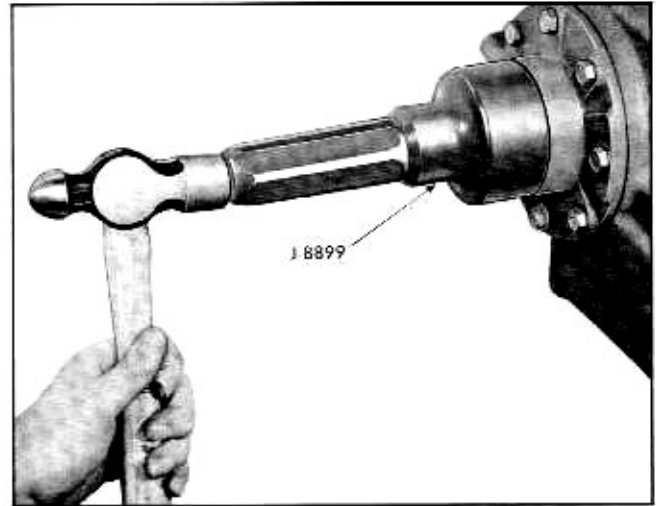

Fig. 4-46 Installing Rear Flange and Oil Seal
2. Apply uniform bead of sealer and install new rear flange and oil seal using J-8899 (Fig. 4-46).